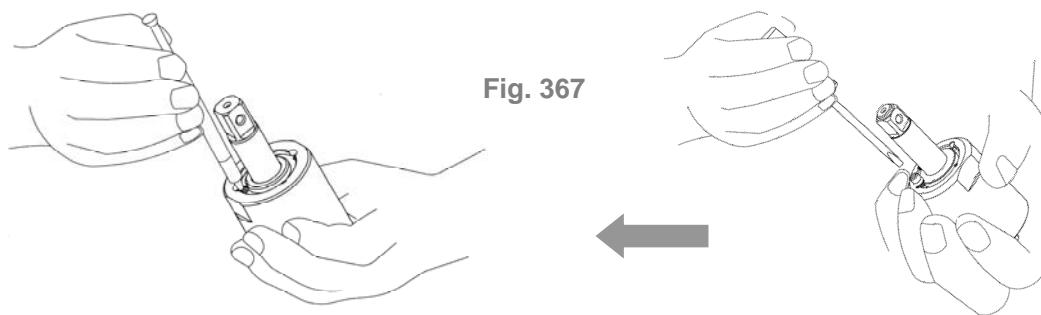

Fig. 367
⑤ Loosen the greasing screw again and use an injector to draw out a little amount of oil ( see Table 49 ) . Finally, tighten the greasing screw back to the pulse cylinder unit, Fig. 367.